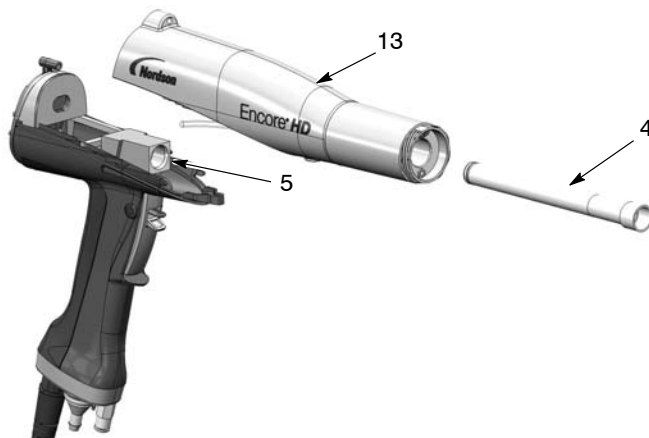

Figure 5 Powder Tube Replacement (Display module and air tubing not shown)
1. See Figure 5. Push the outlet tube (4), along with the O-rings, out of the front of the gun body (13).